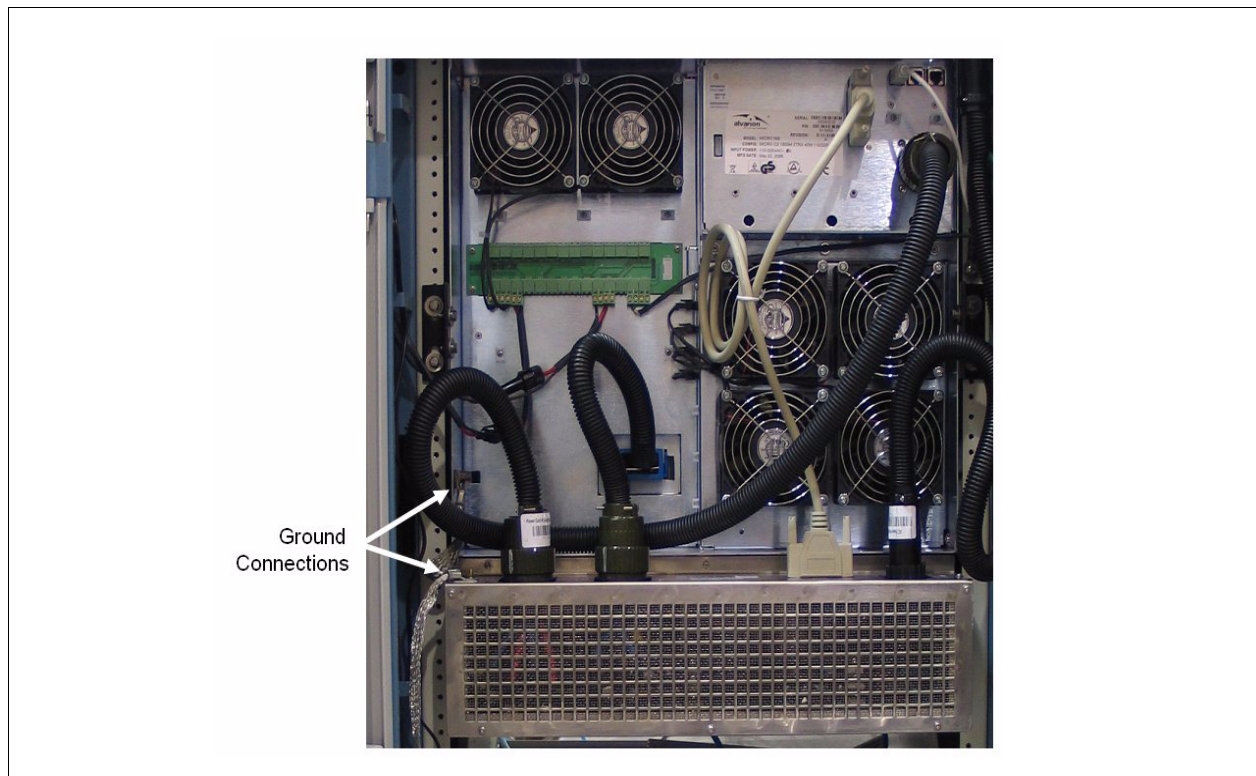

Figure 2-8: Ground Lugs
- 1 Locate the ground lugs on each subrack assembly. See Figure 2-8 for their location.